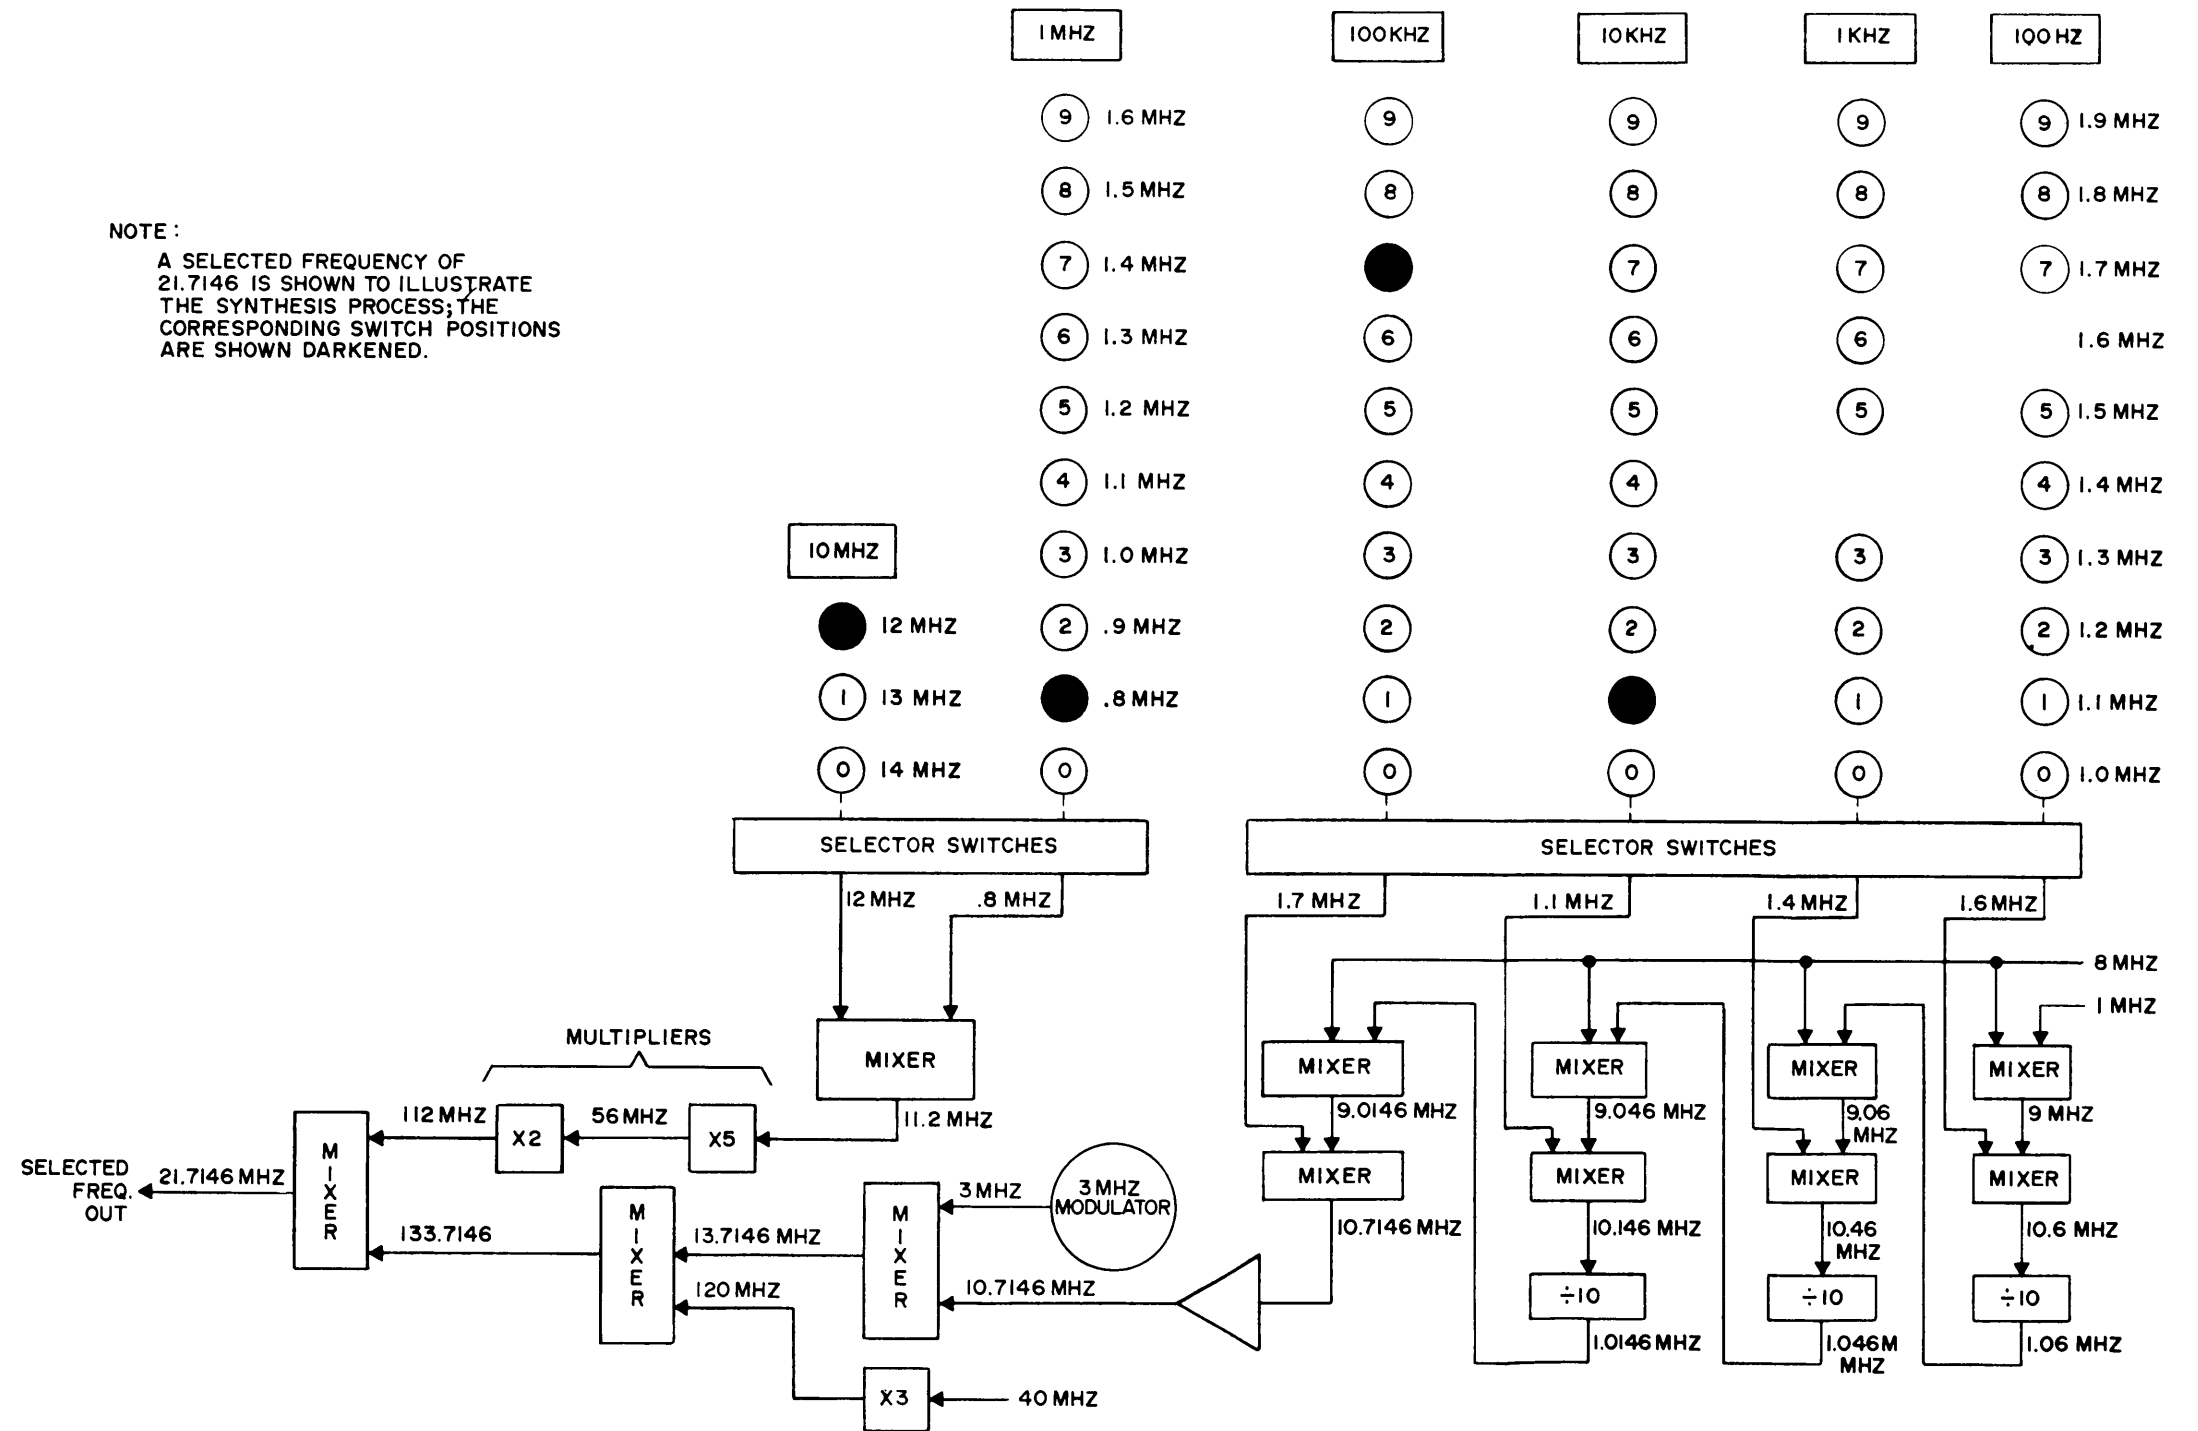

Figure 4-1. Frequency Synthesis, Example
4-2. FREQUENCY SYNTHESIZER. (See figure 4-1.)
Six front panel frequency selector switches provide selection of the carrier frequency in 100 Hz increments from 1.5 MHz to 29.9999 MHz. The synthesizer uses a precision 1 MHz signal from which are developed other basic signal frequencies which, in turn, are used to synthesize the rf carrier output. The basic signal frequencies are applied to mixer-divider and mixer-multiplier circuits to derive discrete rf frequencies. A typical frequency synthesis is shown in figure 4-1 to illustrate the synthesis process. Figure 4-1 illustrates a selected frequency of 21.7146 MHz, the appropriate switch positions are shown darkened on the diagram. The basic 8 MHz signal is mixed with the basic 1 MHz signal to produce 9 MHz; this is mixed with the 100 Hz switch-selected 1.6 MHz signal to produce a 10.6 MHz which, when divided by ten, produces 1.06 MHz, 6 being the least significant digit of the desired frequency. The 1.06 MHz frequency is then mixed with the basic 8 MHz signal to produce 9.06 MHz; this is mixed with the 1 kHz switch-selected 1.4 kHz signal to produce 10.46 MHz which, when divided by ten, produces 1.046 MHz, 4 being the next significant digit of the desired frequency. The 1.046 MHz frequency is then mixed with the basic 8 MHz signal to produce 9.046 MHz; this is mixed with the 10 kHz switch-selected 1.1 MHz signal to produce 10.146 MHz which, when divided by ten, produces 1.0146 MHz, 1 being the next significant figure of the desired frequency. The 1.0146 MHz is then mixed with the basic 8 MHz signal to produce 9.0146. This is mixed with the 100 kHz selected 1.7 MHz signal to produce 10.7146 MHz.
Generation of the two most significant digits (10 MHz and 1 MHz) is done in a different manner than the four least significant digits; these circuits use frequency multipliers and mixers to produce the desired frequencies. The selected 10.7146 MHz signal is first mixed with a 3 MHz modulation frequency to produce a 13.7146 MHz frequency. This 3 MHz frequency is varied by the selected modulation to provide carrier frequency deviations in response to the selected modulation mode; however, for this discussion only, the center frequency (3 MHz) is described. The 13.7146 frequency is mixed with a 120 MHz basic signal derived by multiplying the 40 MHz basic signal by three, the output of the mixer will then be 133.7146. The 1 MHz switch-selected 0.8 MHz signal is mixed with the 10 MHz switch-selected 12 MHz signal to produce a 11.2 MHz frequency; this is first multiplied by five to produce 56 MHz, then multiplied by two to produce 112 MHz. The 112 MHz frequency is then mixed with the 133.7146 MHz frequency to produce the final 21.7146 MHz carrier signal. The 10 MHz selector switch selects a 14 MHz basic signal for the 0 digit position which is used to derive the 01 MHz to 10 MHz range of frequencies, a 13 MHz basic signal is selected in the 1 digit position of the 10 MHz selector to derive the 11 MHz to 20 MHz range of frequencies and the 12 MHz basic signal is selected in the 2 digit position which is used to derive the 21 MHz to 29 MHz range of frequencies. The derivation of each of these discrete frequencies are listed in tables 4-1, 4-2 and 4-3. The derivation of the 21 MHz frequency is illustrated on figure 4-1.
i. STEP GENERATOR ASSEMBLY Z111. The step generator board Z111 contains three X5 multipliers, three bandpass filters and three tuned rf amplifiers. The required channel is energized by switching B+ (12V) to the channel via the 10 MHz selector switch. The function of each of these channels is shown in figure 4-1; the particular mixing frequency for each frequency step selection is specified in tables 4-1, 4-2 and 4-3 for the three frequency bands.
j. STEP GENERATOR ASSEMBLY Z113. The step generator board Z113 contains the 12 MHz mixer-bandpass amplifier channel, three X2 multipliers, three bandpass amplifiers and a summing amplifier. The basic 12 MHz frequency is mixed with the selected mixing frequency (0.8 to 1.7 MHz) to produce the required difference frequencies as previously specified in table 4-3. The X2 multipliers function as shown on figure 4-1 to produce the carrier mixing frequency to the input of the translator board Z112; each of these carrier mixing frequencies are specified in tables 4-1, 4-2 and 4-3. The outputs of the X2 multipliers are amplified by three 3-stage tuned bandpass amplifiers and resistively summed at the base input of a single stage amplifier. The output of this amplifier is then coupled to the translator.